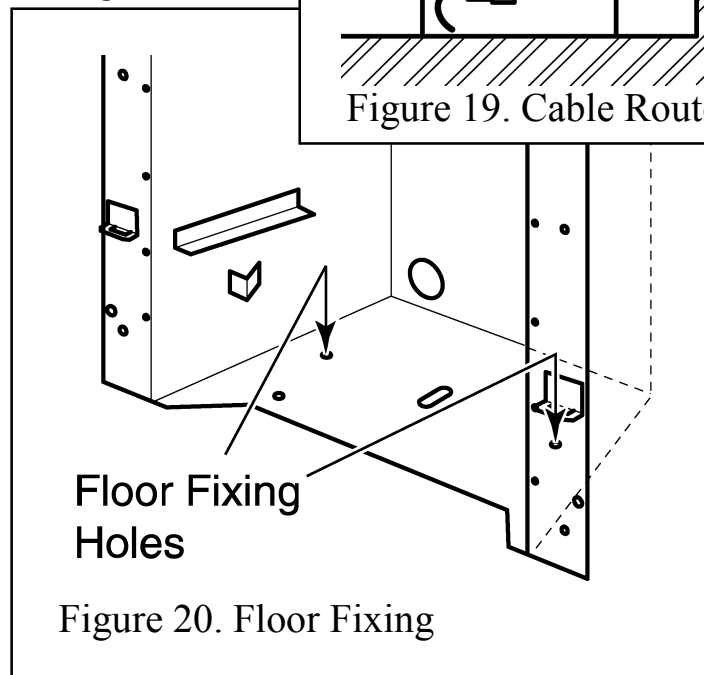

Figure 20. Floor Fixing
8. Drill a hole into the fireplace floor through each of the two holes in the base of the hotbox using a no.12 masonry drill. See figure 20.